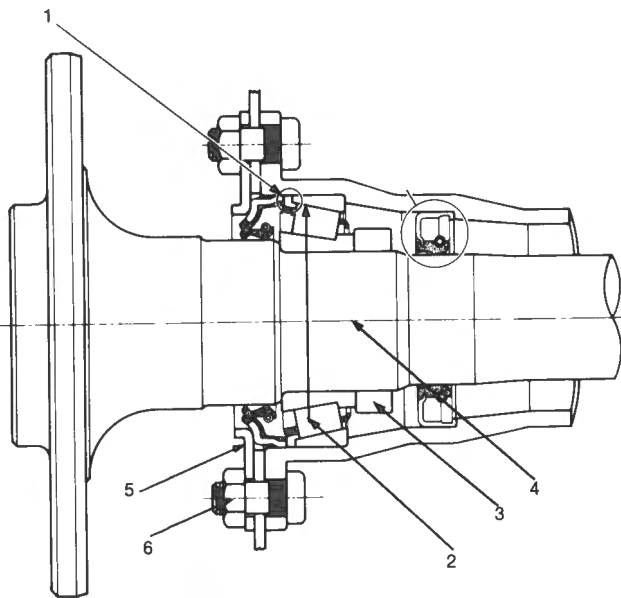

Fig. O-2
- 5 Install the retainer nuts and tighten evenly to the specified torque. Fig. O-2.
detrimental to the bearing and it may be refitted when the rib ring is installed as shown in Fig. O-2.
- 4 Place the lubricated bearing on the axle ensuring that the cup rib-ring is towards the retainer plate. Fig. O-2.
- 9 Secure the backing plate using new nuts tightened to the specified torque. Fig. O-2.